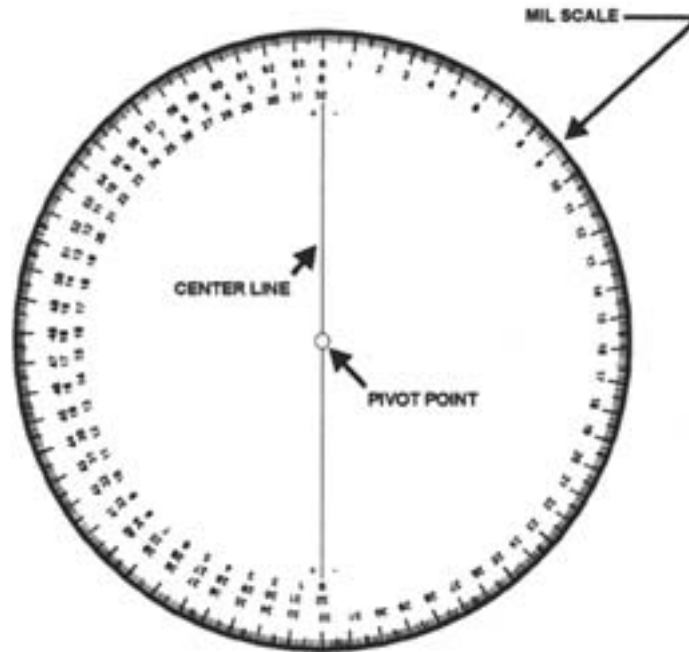

Figure E-4. Rotatable Plotting Disk.
b. Plotting Disk. The plotting disk (see figure E-4) is made of a plastic material that is roughened on the upper surface to receive pencil marks. Four scales and a fine black line are printed on the disk.